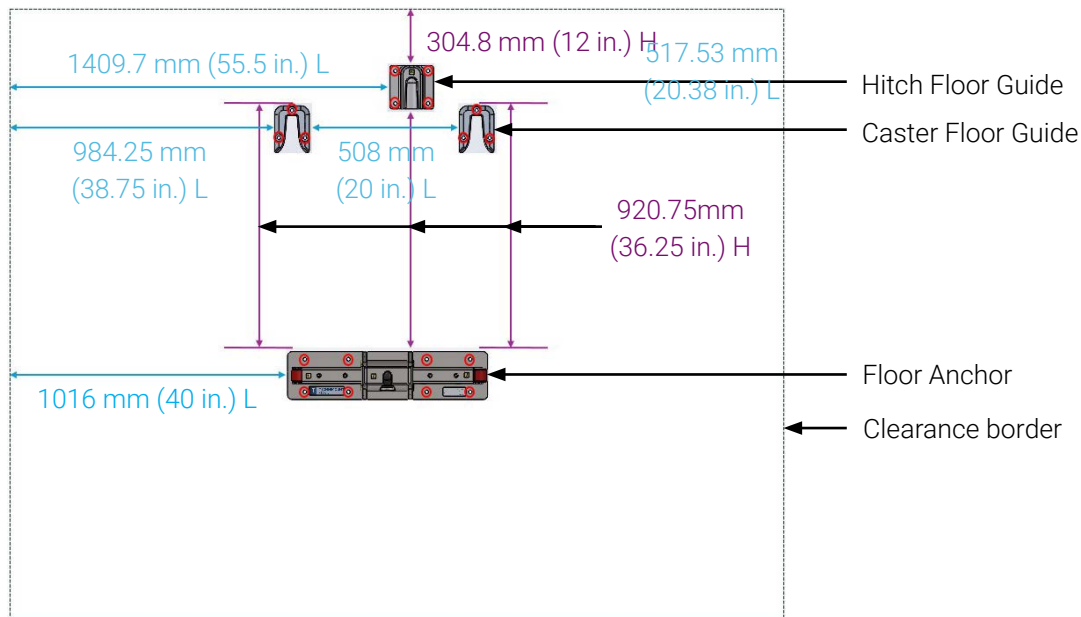
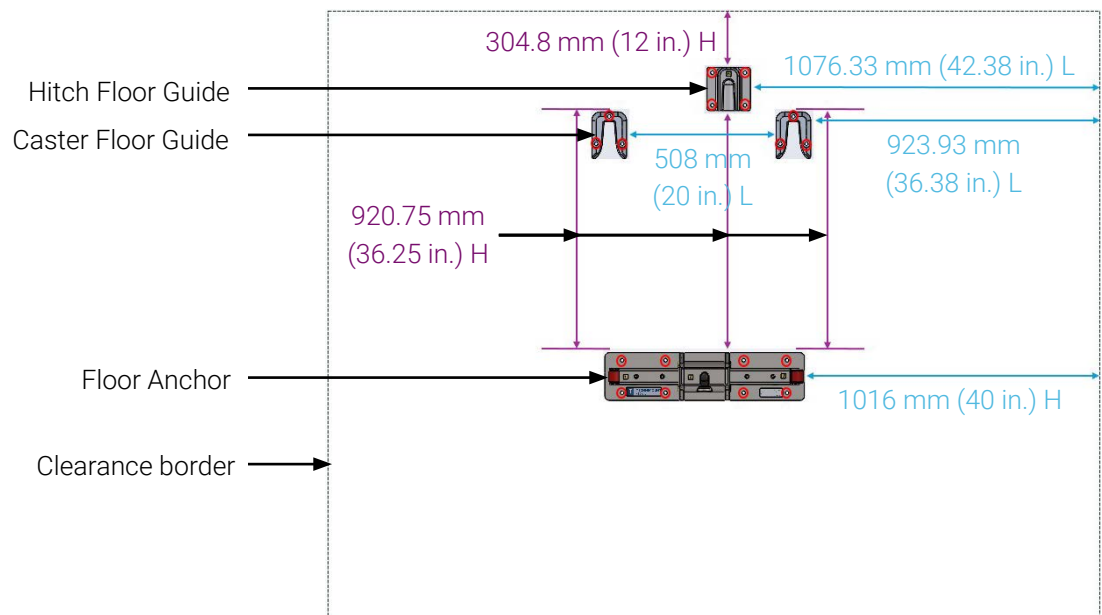

Figure 24: AnchorMed Floor Mount components measures taken from patient right (central installation)
Figure 25: AnchorMed Floor Mount components measures taken from patient left (central installation)
- For a central installation, refer to Figure 24 for measurements taken from patient right and Figure 25 for measurements taken from the left.